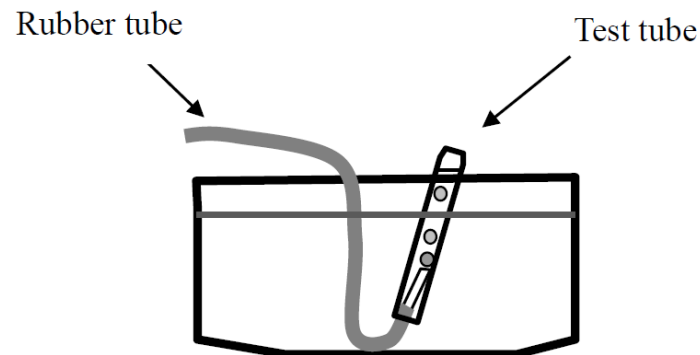

Figure T4-1 Collection gases over water
- Because the density of gas is lower than that of water, when the gas is introduced into the collection device (test tube in Figure T4-1) water will be displaced out